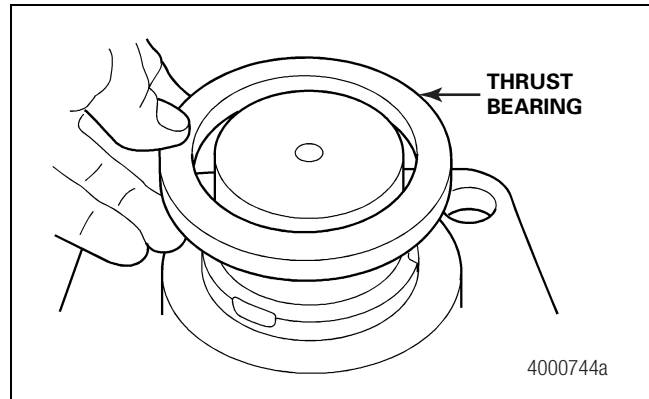

Figure 4.8
8. Disassemble the lower knuckle cap. Inspect the thrust bearing for wear and damage. Replace a worn or damaged thrust bearing at reassembly. Figure 4.8.